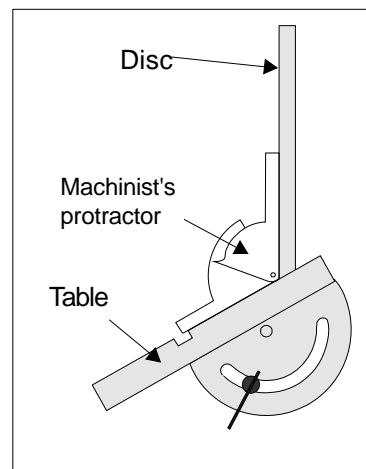

Figure 10: Achieving accurate angles using a machinist's protractor
**Note:** the table protractor, while accurate, may not give you the precision required for highly accurate grinding. For these cases requiring high precision angles, use a machinist's protractor to establish the required angle between table and disc as shown in Figure 10.